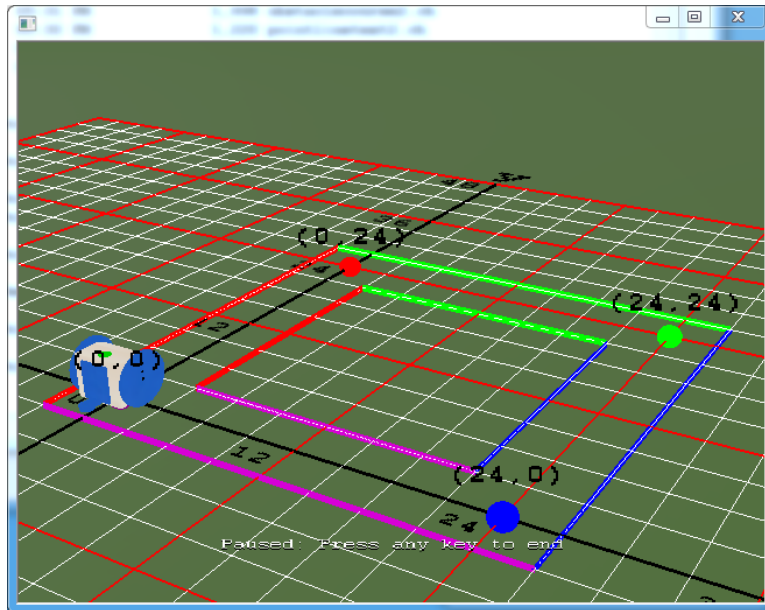

Figure 9.25: The RoboSim scene with an obstacle course by the program `pointlinetext3.ch`
3. Create an XML RoboSim configuration file `pointlinetext3.xml` to draw an obstacle course as shown in Figure 9.25. The size for points in the obstacle course is 2. The line width for all lines is 2.
5. Write a program `obstaclecourse3.ch` to drive a robot following the obstacle course as shown in Figure 9.25.